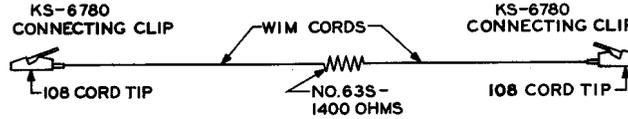

Fig. 1
2.08 Testing cord to be made up locally, as shown in Fig. 1.
6	Connect KS-6780 clip of special test cord shown in Fig. 1, to ground at line finder frame